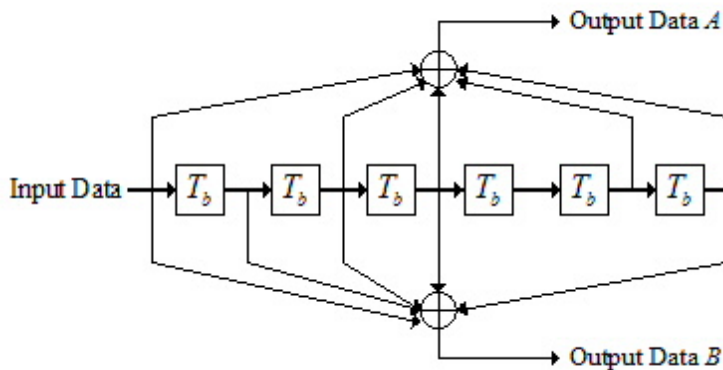

Fig.1 Convolutional encoder
2. The convolutional encoder uses the industry-standard generator polynomials,  $g_d = 133$  and  $g_l = 171$ , of rate  $R = 1/2$ , as shown in Fig.1. The bit denoted as “A” is output on the encoder before the bit denoted as “B.”